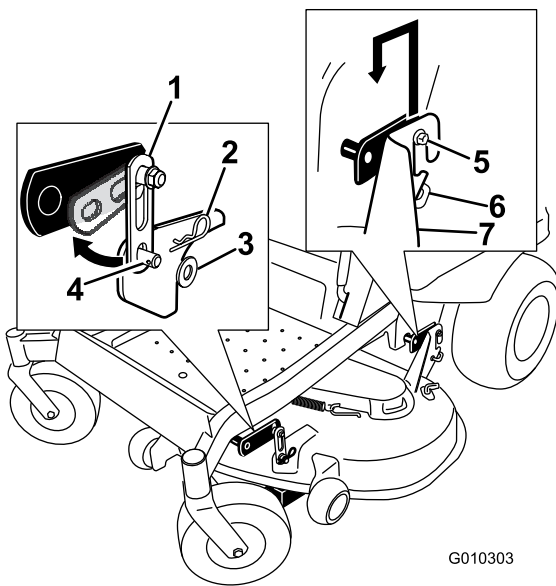

Figure 66
7. Remove the hardware from the front deck hangers on both sides of the deck (Figure 66).
8. Carefully lift the deck off the rear hanger bolts and lower the front of the mower deck to the ground (Figure 66).
5. Lift the rear of the mower deck and guide the hanger brackets over the rear hanger bolts (Figure 66).
6. Attach the front support on the mower deck to the front deck hangers and secure them with a clevis pin and hairpin cotter (Figure 66).